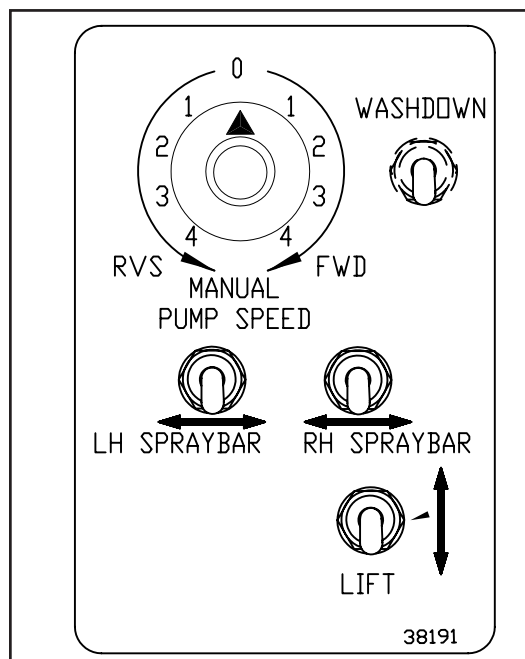

FIGURE 3-4. REAR CONTROLLER
6. Set the Front/Rear switch to the REAR position. Use the Manual Pump Speed dial on the Rear Controller (Figure 3-4) to operate the hydrostatic motor and asphalt pump in the forward and reverse directions. The center position, No. 0, will stop the pump. Visually verify that the pump turns in both directions.